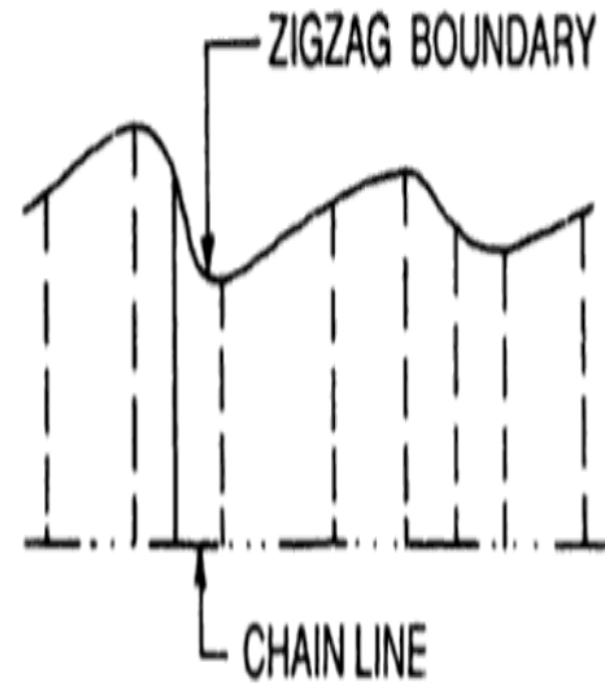

Fig. 2.10
- ✓ When the boundary line is zigzag, perpendicular offsets are taken at every point of bend to represent the shape of the boundary accurately. In such a case, the interval of the offsets may be irregular (Fig. 2.10).